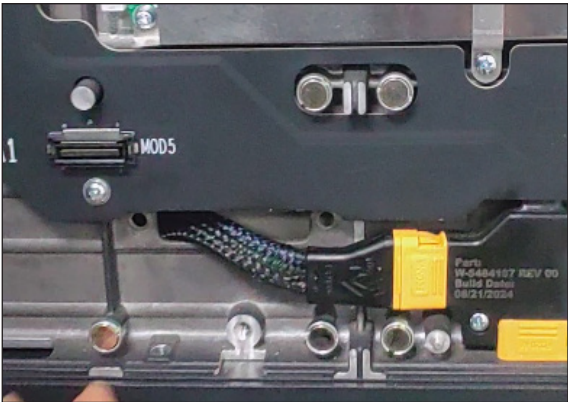

Figure 12: Install Power Input Cable
- b. Install the power input cable through the rear of the panel and plug in the cable. Re-attach the two screws. Refer to **Figure 12**.